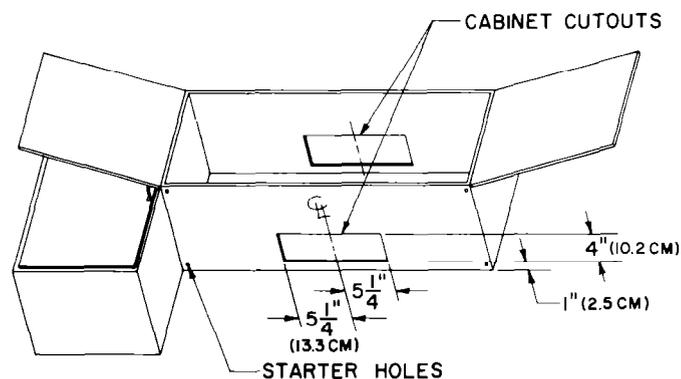

FIG. 2
3. Cut holes at marked locations to accommodate ventilating duct and electrical wiring. Allow 3/8" (1.91 cm) extra on ventilating opening toward the front of cabinet directly above the hood. Be sure to minimize openings through outside walls or the ceiling. These will have to be sealed later. Figure 2 shows cabinet cutouts for the 3 1/4 x 10 Vertical Venting.